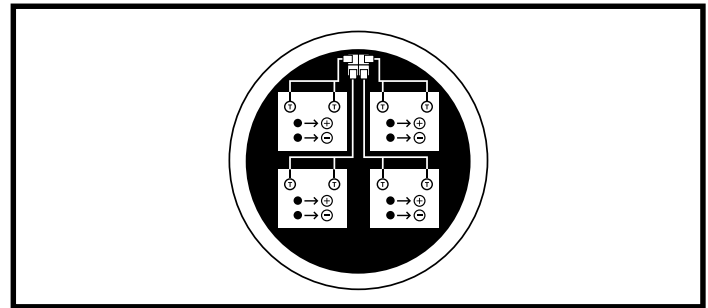

Figure 21. Battery Wiring Diagram (4 Batteries)
8. Disconnect the wiring harnesses from the batteries. See figures 21 and 22.